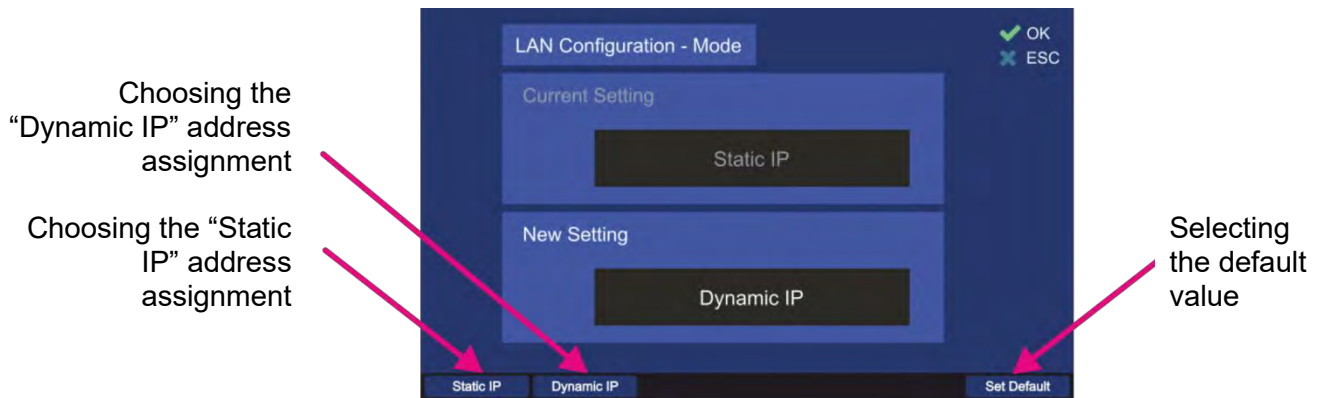

Figure 114. Changing the mode of the IP address assignment
- o IP address assignment can be changed directly using the hotkeys “Static IP” and “Dynamic IP” (positions 1 and 2, s. Figure 113), so that the value of this setting is changed without opening the dialog, or it can be set over the corresponding dialog after pressing the hotkey “Edit Value” (s. Figure 113, position 3) while this menu point is marked, the following dialog opens (s. Figure 114).
- o Choose the new setting using one of the hotkeys (s. Figure 114), which will then appear in the “New Setting” field.